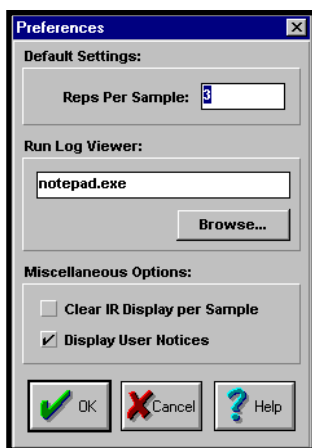

Figure 4.12. TOC Reporter Preferences Screen
- To change the graph's appearance, go to the **File** menu and select **Preferences**. This will access the TOC Reporter Preferences Screen (see Figure 4.12). The TOC Reporter Preferences Screen allows operator to modify the appearance of the active (selected) graph window in the TOC Reporter Screen.